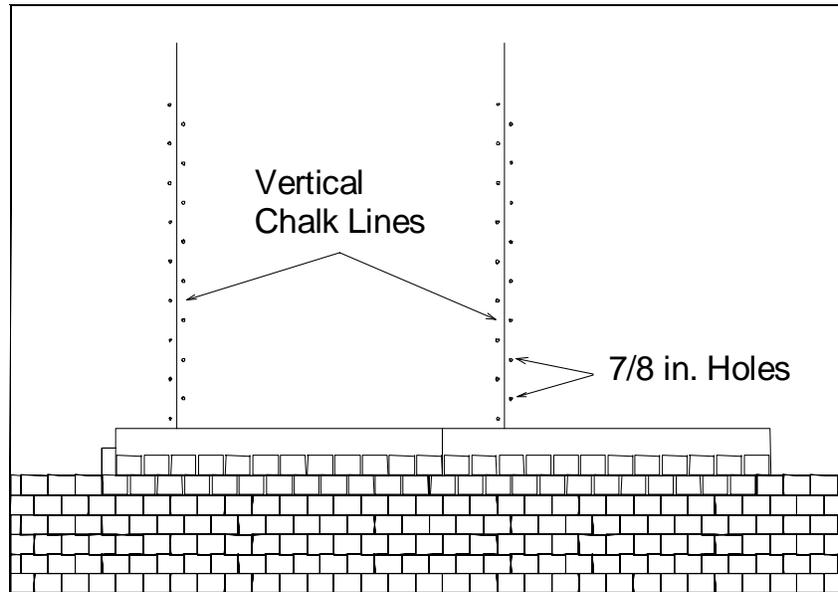

Figure 16
- 5.8 Repeat steps 4.2 through 4.4 for all remaining PV shingles in the second row as shown in figure 16.